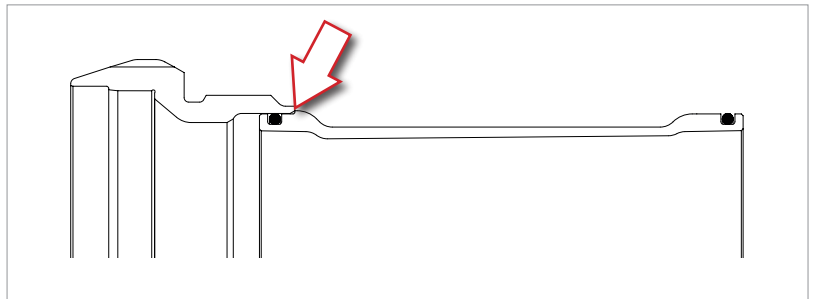

Fig.2
• Make sure that the cup is against the profile in the hose (Fig. 2).